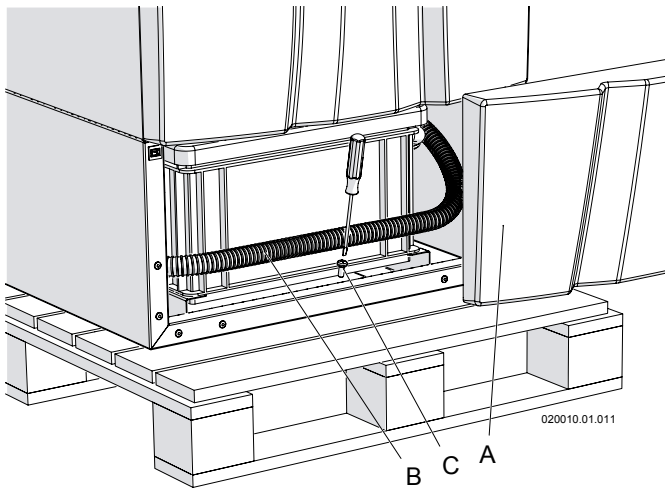

Figure 6-1 Remove appliance from wood pallet
- 2.- Remove the front door (see Section 16.2) to access the screw "C" (Figure 6-1) in front of the unit;